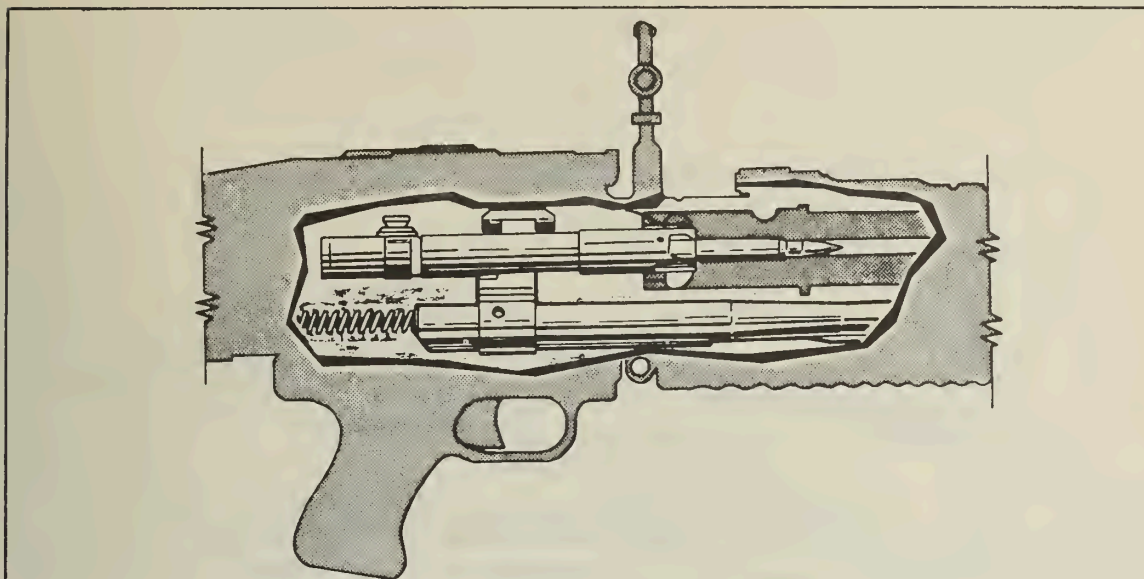

Figure 63. --Locking Completed.
c. Locking. --Locking begins when the locking lugs of the bolt make contact with the locking cams in the barrel socket. The cut of the locking cams in the barrel socket causes the bolt to rotate in a clockwise direction. When the bolt has rotated a quarter turn clockwise and is fully locked to the barrel socket, locking is completed. (See fig. 63.)